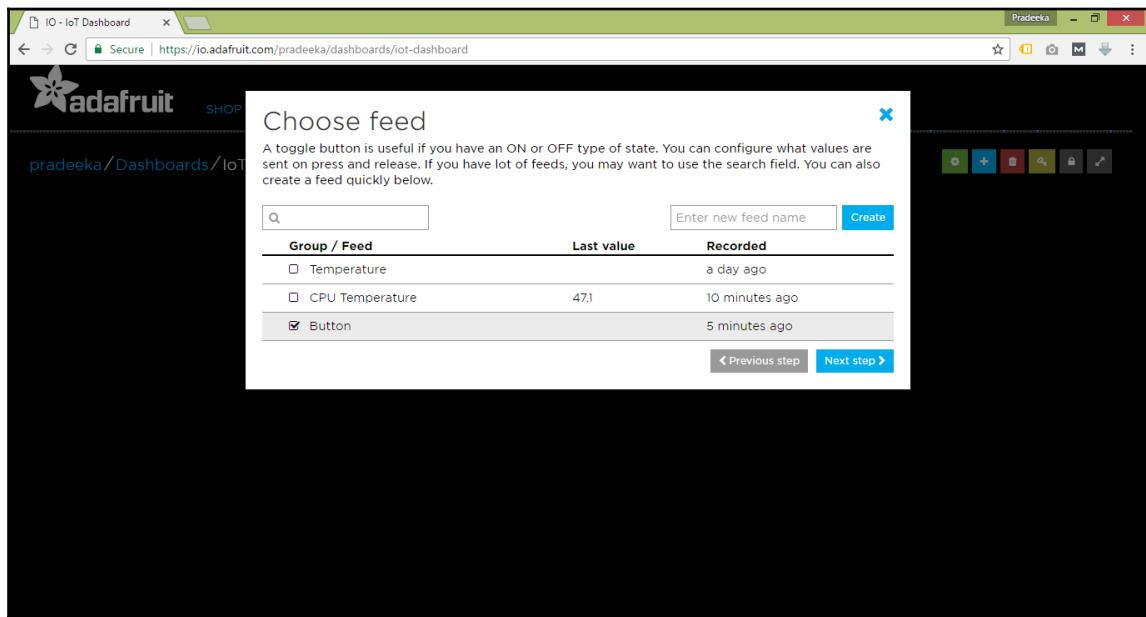

Figure 4-37: Assigning a feed to the block
4. In the **Choose feed** dialog box, select the **Feed** button and click the **Next step>** button (Figure 4-37):